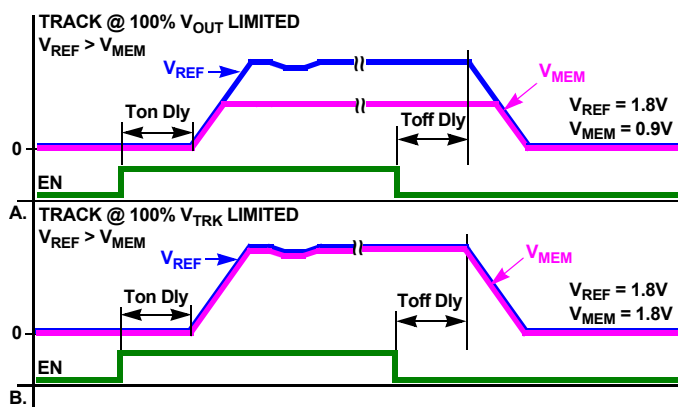
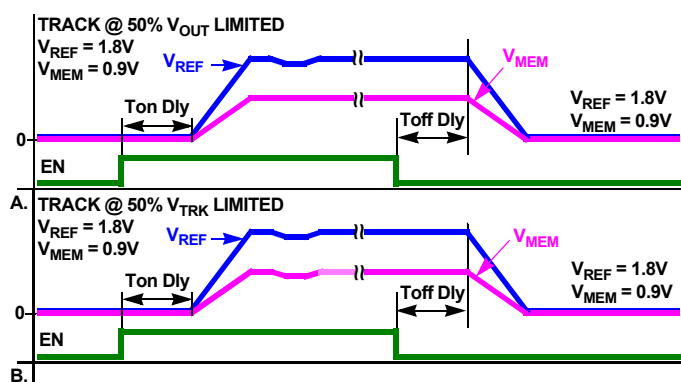

FIGURE 18. COINCIDENT TRACKING
FIGURE 19. RATIOMETRIC TRACKING
The ZL8101 offers two modes of tracking: coincident and ratiometric. Figure 18 and Figure 19 illustrate the output voltage for the two tracking modes.
- Track at 100% VOUT limited. Member rail tracks the reference rail and stops when the member reaches its configured target voltage. Figure 18 A.
- Track at 100% VTRK limited. Member rail tracks the reference at the instantaneous voltage value applied to the VTRK pin. Figure 18 B.
The configuration settings for Figures 18 and 19 are shown below in Tables 15 and 16. In each case, the reference and member rise times are set to the same value.